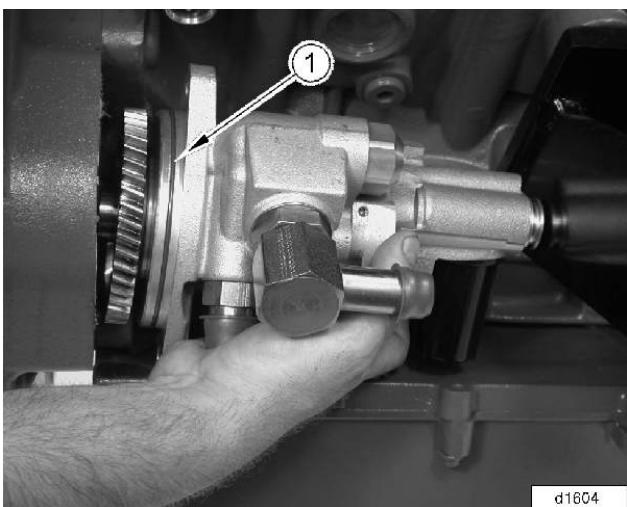

Figure 13 Remove Power Steering and Fuel Pump Assembly
14. Remove power steering and fuel pump assembly from rear cover (Figure 13).